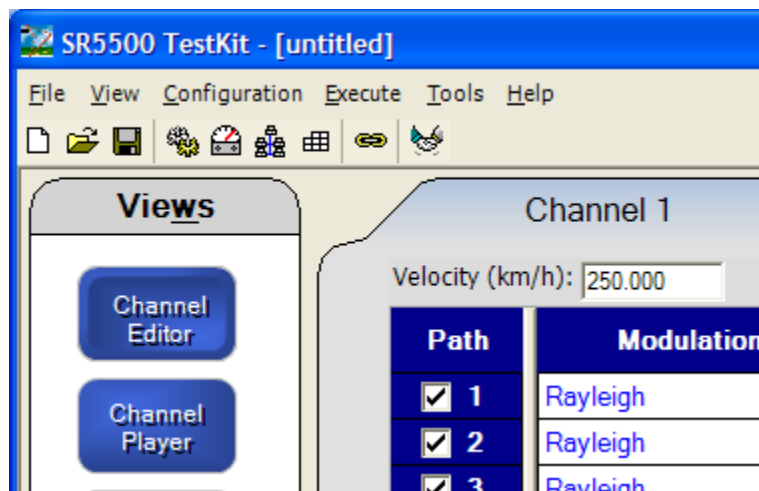

Figure 1-10: SR5500 TestKit Software Menus
7. Launch the instrument control software SR5500 TestKit on the PC by clicking the **TestKit** icon  on the desktop. After launching the SR5500 TestKit application, complete the connection to the SR5500 by clicking the **Connect** icon  shown in Figure 1-10.